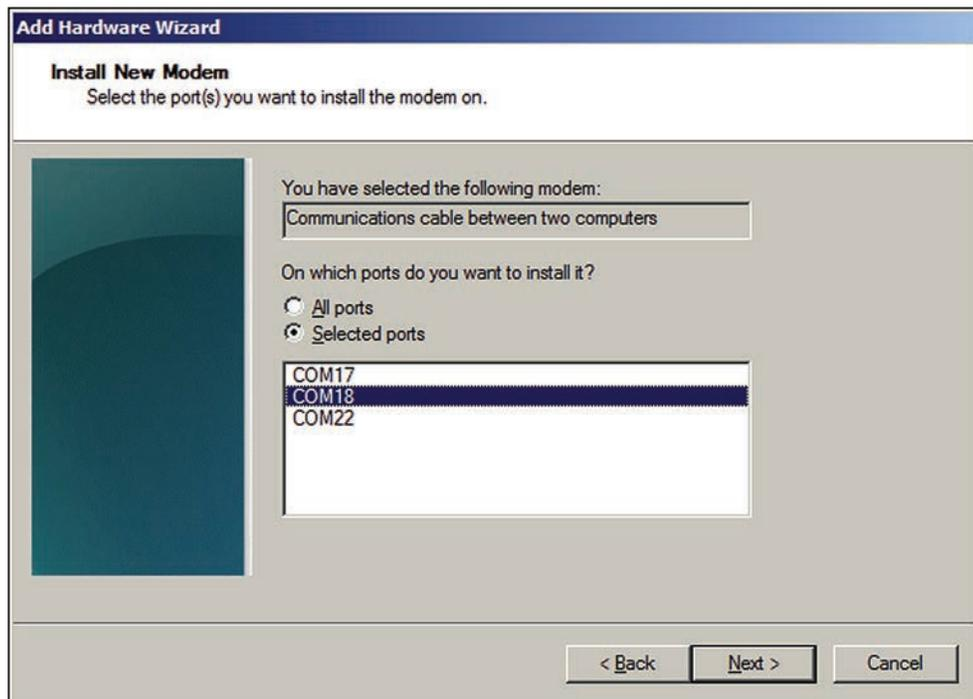

Figure 8. The Add Hardware Wizard dialog box for installing a new modem.
STEP 8. Check that the cable between the two computers is attached to COM18. See Figure 8.